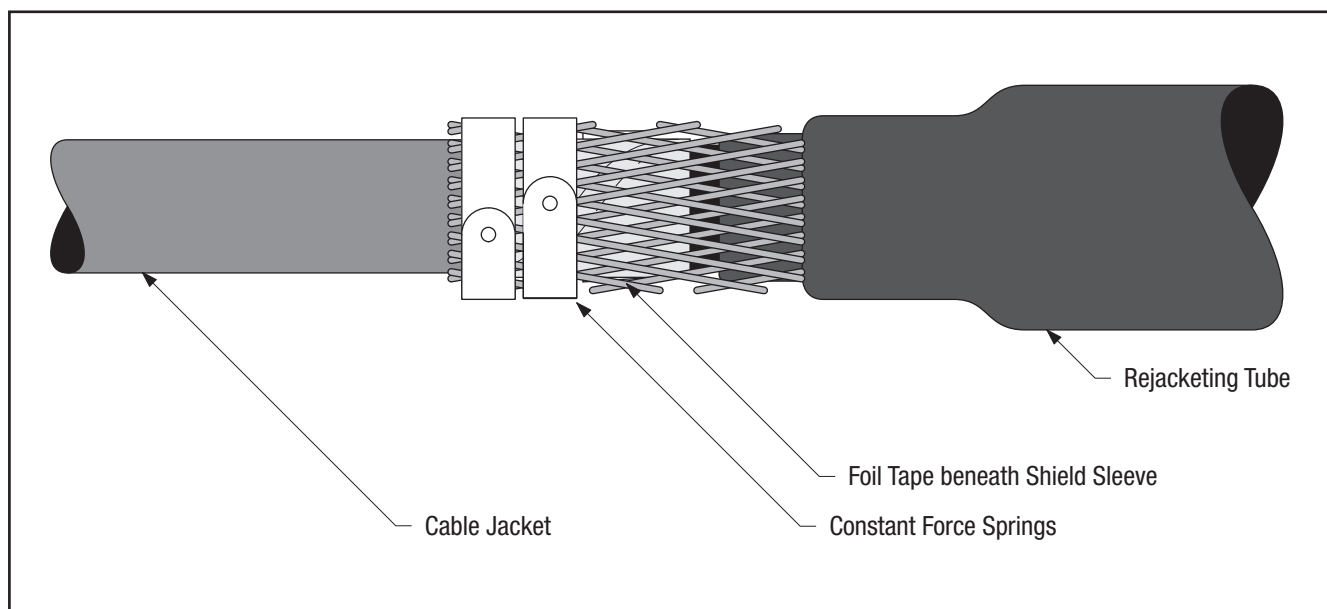

Figure 14
- 5.2 Hand-tighten the shield sleeve outward and secure it to the wires, tape or LC shields on either side of the splice using two constant force springs on each end between the jacket edge and the copper foil tape as shown (*Figure 14*).
- 5.3 If shield sleeve extends beyond jacket edge, it may be interwoven with the constant force springs. Cinch (tighten) the spring after wrapping the final winding (*Figure 14*).